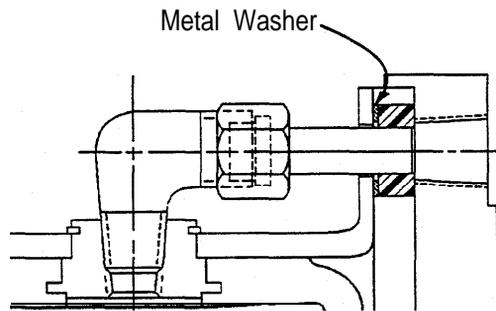

Fig. 7
2.6.5 Install the air connection gaskets onto the air tubes. The metal backup washer is to be positioned toward the elbow (away from the spider). See Figure 7.
- 2.7.9 Install the air connection gaskets onto the air tubes. The metal backup washer is to be positioned toward the elbow (away from the spider). See Figure 7.